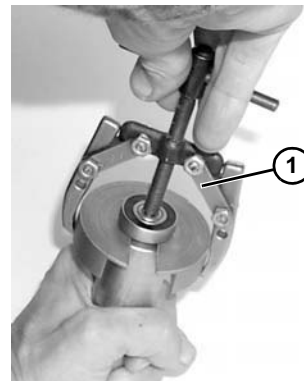

Figure 57
2. Using puller part #807-1716 (Figure 57, item 1), remove and discard bearing.